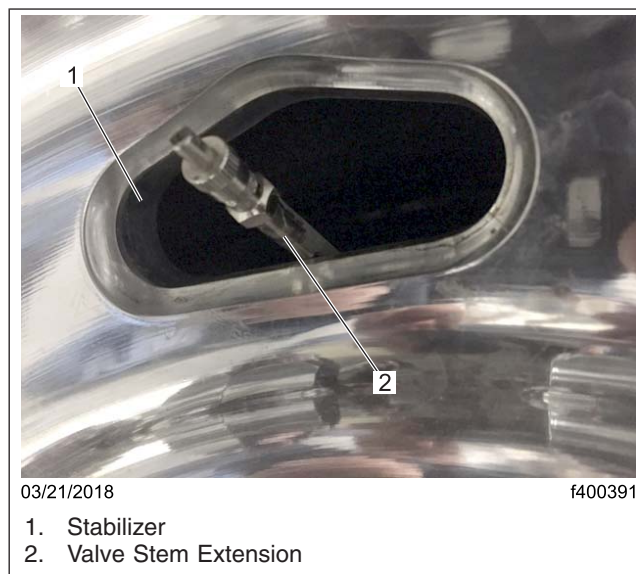

Fig. 1, Valve Stem with New Stabilizer
3. Locate each drive-axle inner-wheel valve stem extension. See Fig. 1.